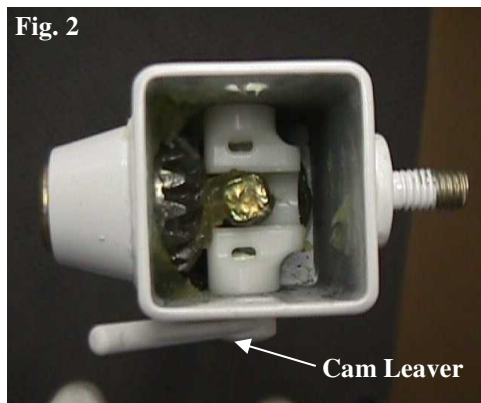

Fig. 2
2. Snap lever into right side of cam and plastic plug into left side. (Fig. 2).